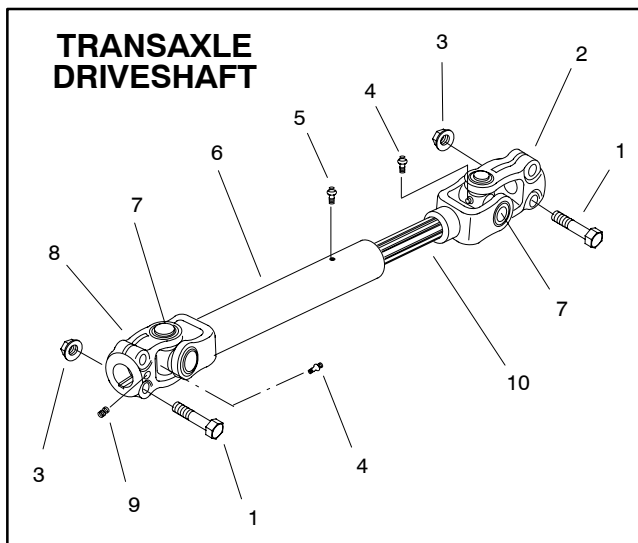

Figure 22
A. For transaxle driveshaft (Fig. 22) removal, see Pump Drive Gearbox Removal in this section.